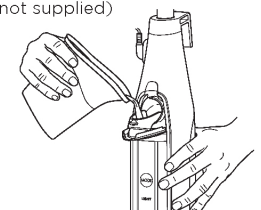

fig. 4
- 4 Use a filling flask (not supplied) to pour distilled water into the tank (fig. 4). Make sure to not exceed the Max Fill line. When finished, close the tank lid firmly.